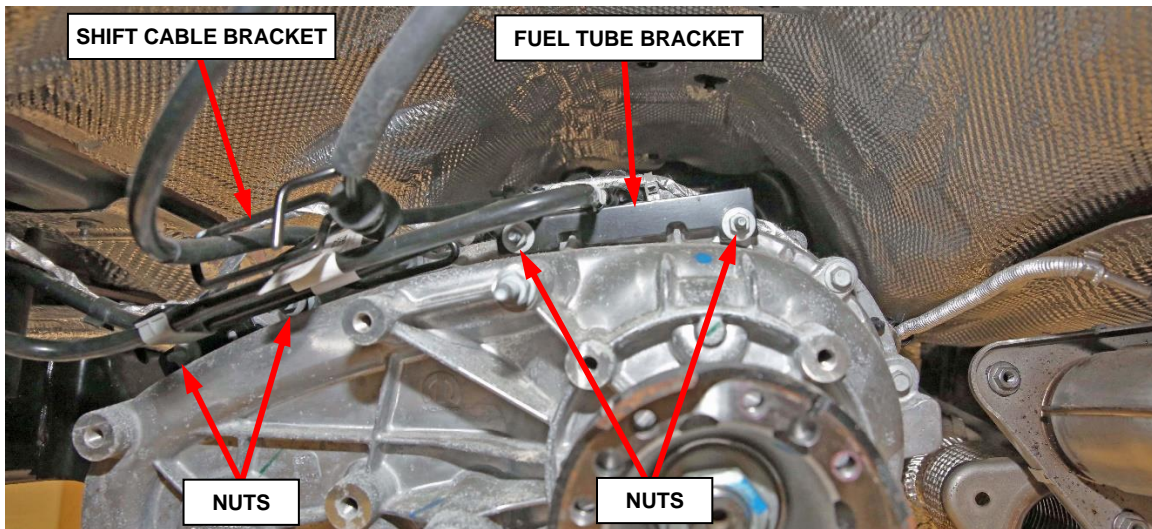

Figure 22 – Shift Cable and Fuel Tubes Brackets
26. Remove the four nuts securing the fuel tube bracket and shift cable retaining bracket to the transfer case then remove both brackets (Figure 22).